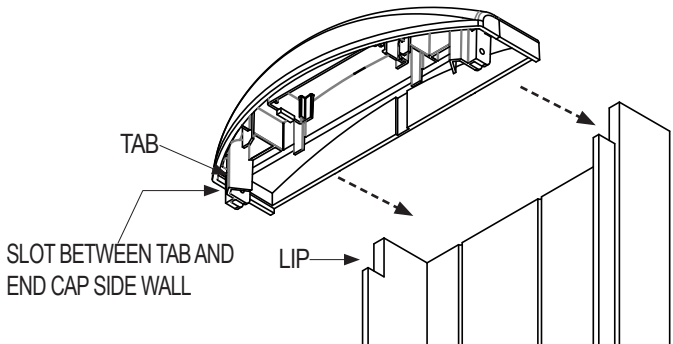

Figure 4.6 End Cap Alignment
16. Match and insert the Back Box Lips into the Slots between the End Cap Tabs and the End Cap Side Walls. (Figure 4.6)